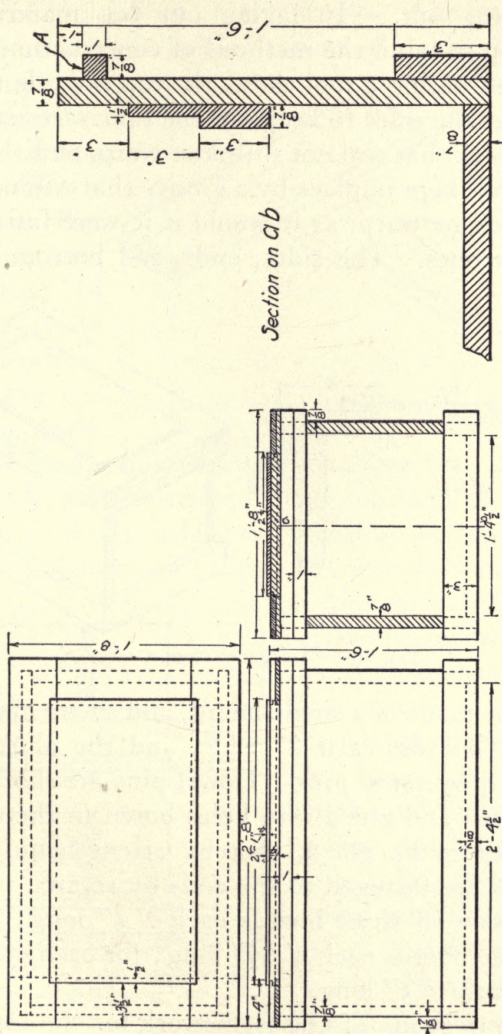
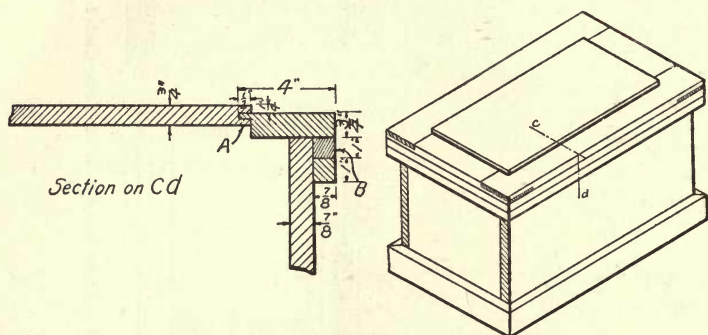
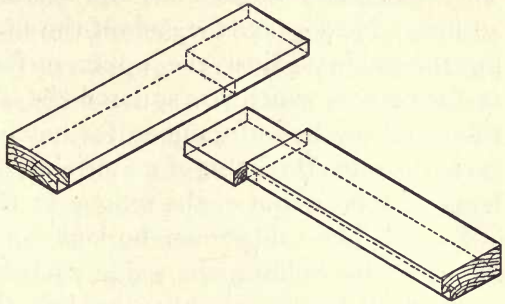
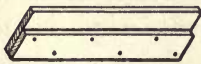

FIG. 119. — WORKING DRAWINGS OF TOOL CHEST.
FIG. 120.—ASSEMBLED TOOL CHEST.
FIG. 121.—HALVING THE CORNERS OF THE TOP.
FIG. 128.—SLIDE ON WHICH TRAY RESTS.
tongue of the rabbet in the frame. The rabbet and groove are shown in Fig. 120 at *A*. The method of halving the pieces together after cutting the rabbet is shown in Fig. 121, which is an illustration of the pieces ready to assemble.
8. **Mitering the strips for the top.** — If the top has been made according to the dimensions on the drawings, it will extend over the sides of the box 1" on each side and over the ends the same distance. Four strips each 1" wide and  $\frac{7}{8}$ " thick are to be fastened to the underside of this overhang of the top. These strips must be fitted so as to fit tight around the box, and are to be mitered at the corners. Lay out and cut just as the bottom strips were. Fasten to the top by screws put down through the top into the strips. (See *B*, Fig. 120.) Underneath these strips are four others the same size fastened to the box, and they act as a shoulder on which fall the top strips. (*A*, Fig. 119.)
11. **Making slides.** — The slides on which the trays rest should be as long as the chest is wide (inside measurements), and made of two pieces of  $\frac{1}{2}$ " pine, one piece 6" wide and the other 3" wide, as in Fig. 128. The 3" strip is nailed to the 6" strip with one edge flush, and the whole is screwed to the ends of the chest 3" down from the upper edge, as shown in *Section on ab*, Fig. 119.